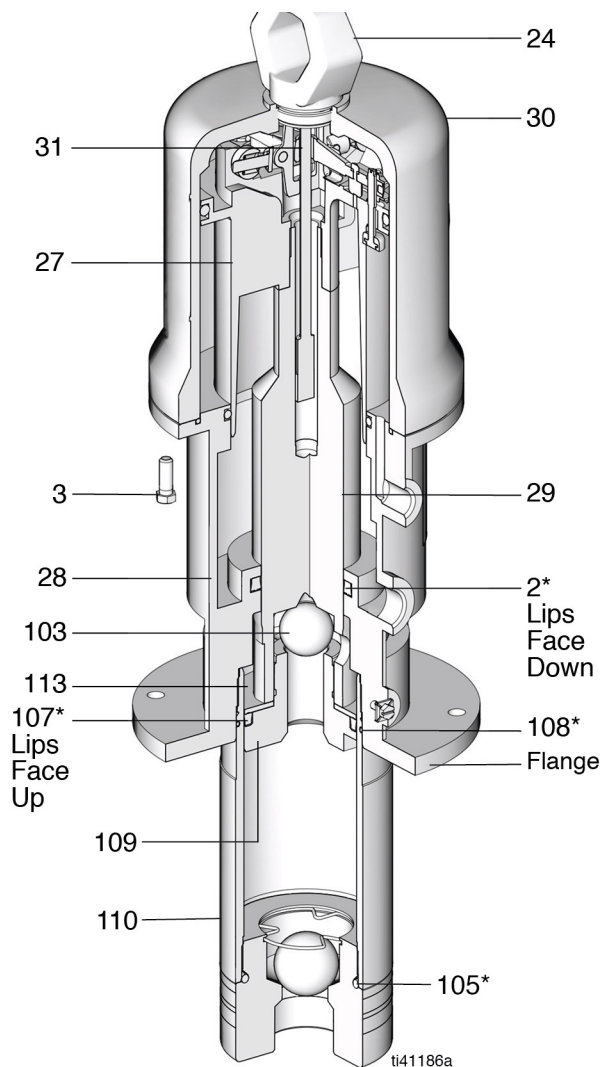
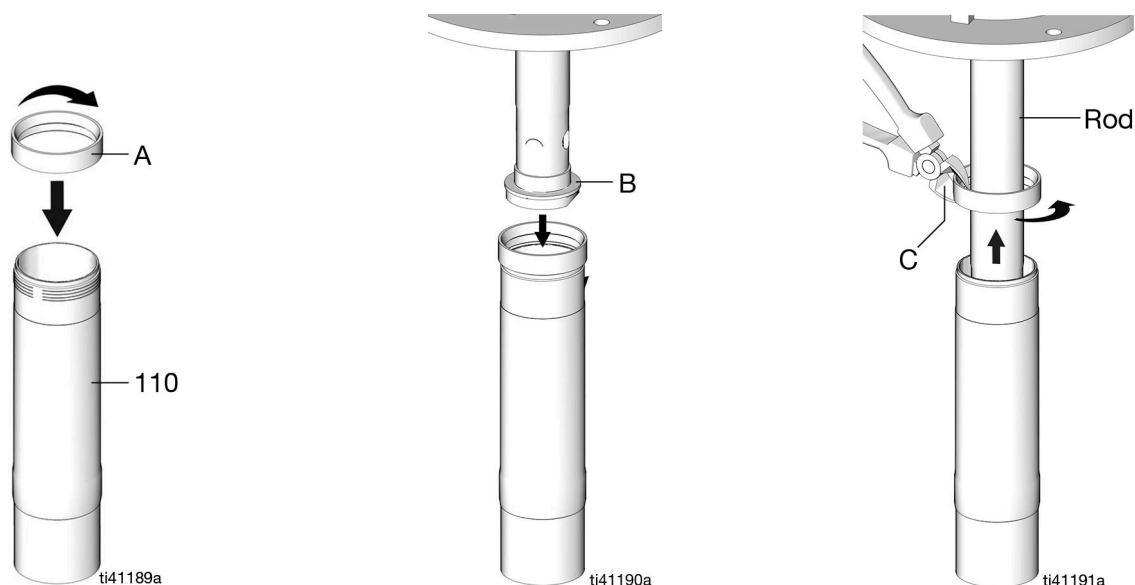

FIG. 3
FIG. 5
Refer to FIG. 3 for the following instructions.
10. Grease and install the new o-rings (19*, 20*) on the piston assembly (27) and in the groove in the air motor base (28).
11. Clamp the air motor base (28) in a vise horizontally by closing the vise jaws on the flange.
12. Grease and reinstall the u-cup seal (10†), thread and throat bearing (36) into the air motor base (28), and torque the throat bearing to 30 to 40 ft.-lbs (40.7 to 54.2 N•m) using a 2 in. socket.
13. Slide the piston rod (29) down through the packing, and lower the piston assembly (27) into the air motor base (28).
14. Carefully lower the cylinder (30) straight down onto the piston assembly (27). Tighten the eight screws (3) holding the cylinder to the base (28).
15. Grip the trip rod (31) with padded pliers, screw the lift ring (24) onto the tip rod, push the lift ring down, and screw it into the top of the cylinder.
16. Install the u-cup packing (107†) with the lips facing up, and place the piston washer (113) on the piston/valve seat (109). Make sure that the lips of the u-cup packing face up (FIG. 3)
17. Place the piston ball (103) in the piston rod (29).
18. Clean the threads of the piston/valve seat. Apply thread locking compound to the threads (109), and thread the assembly from step 16 onto the piston rod (29).
19. Clamp the flats of the piston/valve seat (109) in a vise, and torque the piston rod (29) to the piston valve seat to 40 to 60 ft.-lbs (54 to 81 N•m).
20. Clamp the air motor base (28) in a vise horizontally by closing the vise jaws on the flange.
21. Thread the piston assembly tool (A) (included in Repair Kit 238751) onto the threads of the displacement pump cylinder (110). See FIG. 5.
22. Insert the piston assembly (B) into the displacement pump cylinder.